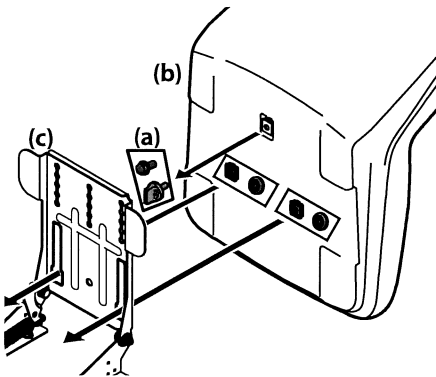

Figure 2-5
1. Remove the seat adjustment knob/bolt (a) from the bottom of the seat (b). See Figure 2-5.
2. Align the seat (b) over the seat pivot bracket (c) as shown in Figure 2-5 and fit the seat (b) onto the seat pivot bracket (c) inserting the two tabs (square or round) on the seat (b) bottom into the slots on the seat pivot bracket (c).